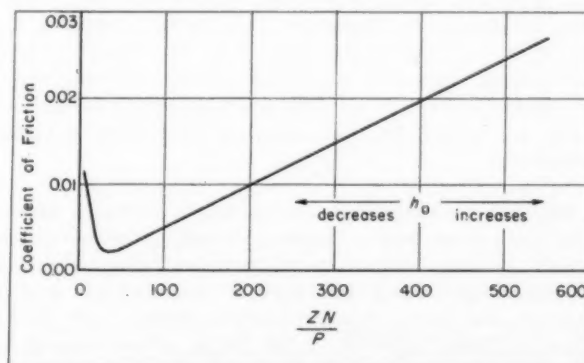

Fig. 7 — Change in coefficient of friction with  $ZN/P$  for a full journal bearing
pressure has been covered separately. Sometimes oil viscosity depends on outside conditions such as when the same oil is used to lubricate the gear teeth and the shaft bearings of a speed reducer. On many installations, however, it is perfectly possible to experiment with viscosity changes as a means of eliminating oil film whirl. In fact, experimentation may be the only way to determine accurately the effect of viscosity change on oil film whirl; existing theory and practice don't always agree on the end result of a viscosity change. Theory suggests reducing viscosity if oil film whirl exists, accomplished practically either by putting in a lower viscosity oil or by running the existing oil at a higher temperature. If the oil supply system has a heat exchanger, this may be regulated to permit a higher operating oil temperature. As always, proper judgment must be applied to such a remedy. Reducing viscosity reduces film thickness, which is desirable up to a point. The film must be thick enough to pass foreign matter in the oil safely, for example. Going to the left of the knee of the curve in Fig. 7 can be disastrous.
Preference is for larger values of eccentricity ratio  $E$ , as outlined previously; results from changes in  $P$ ,  $\mu$ ,  $N$ ,  $C$  and  $D$  can be evaluated from Fig. 6. At the same time, Fig. 7 is of interest because it enables us to take friction loss and minimum film thickness into account. Fig. 7 is a slight variation of a table by McKee.14 Also, eccentricity ratio can be expressed as:
**Bearing Pressure Variation:** Inspection of the dimensionless symbol group in Equation 1 indicates immediately that increasing  $P$  is a step in the right direction, as it gives not only the preferred higher values of  $E$  (see Fig. 6) but the lower and better values of  $N_w/N$ . Simultaneous consideration of Fig. 7 shows that as  $P$  increases ( $Z$  and  $N$  constant) friction loss decreases which is desirable, and  $h_0$  also decreases. Also, inspection of Equation 2 shows decreasing  $h_0$  to result in a larger eccentricity ratio  $E$  if clearance  $C$  is constant. Thus this reasoning simply confirms what is already known; if oil film whirl occurs in an actual situation, it can be minimized by increasing bearing pressure.
**Oil Viscosity Variation:** Consideration of Fig. 6 shows that as  $\mu$  decreases a larger eccentricity ratio results which, in turn, leads to more-desirable lower values of  $N_w/N$ . And Fig. 7 indicates a satisfactory action through decrease of friction loss and thinner film thickness  $h_0$ . From Equation 2 the effect of decreasing  $h_0$  is to increase eccentricity ratio which is helpful in relieving oil film whirl. Increasing oil temperature, thus decreasing viscosity, might also be a help in reducing